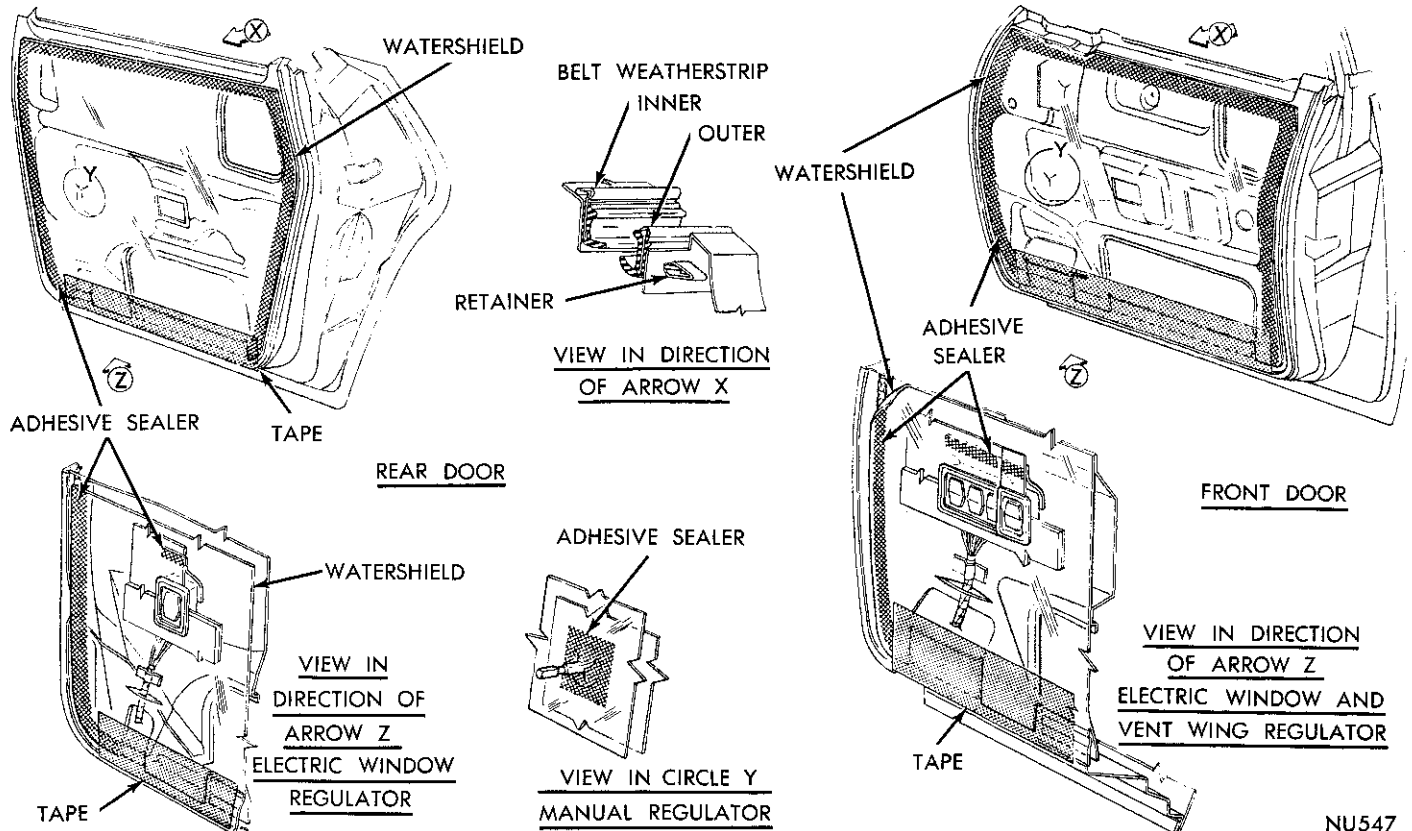

Fig. 24—Door Watershields
- (1) Remove inside handles and arm rests.
- (2) Remove screws attaching trim panel to door inner panel.
- (3) Insert a wide blade screw driver next to the retaining clips between trim panel and door frame. Snap retaining clips out of door panel and remove panel.
- (4) Before installing trim panel, inspect condition of watershield (Fig. 24).
- (5) Align trim panel retaining clips with holes of door frame and bump into place with heel of hand.
- (6) Install trim panel to door screws, escutcheon washer, handles and arm rest.
Refer to Figure 24 for sealing areas and applications of watershields. The lower edge of shield must be inserted into the slots in bottom of inner panels.